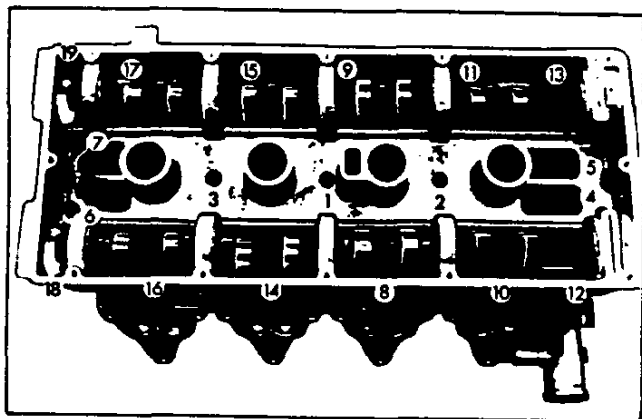

Fig. 18—Camshaft Carrier Bolt Torque Sequence
3. Install cover retaining screws and washers and torque screws alternately and evenly to produce a uniform draw on cover (use sequence shown in figure 18).
as shown in the torque sequence pattern (Fig. 18) to prevent distortion caused by valve spring tension.
3. Remove tappet holding tools and install carrier retaining screws. Torque screws alternately and evenly in the sequence shown in Figure 18.